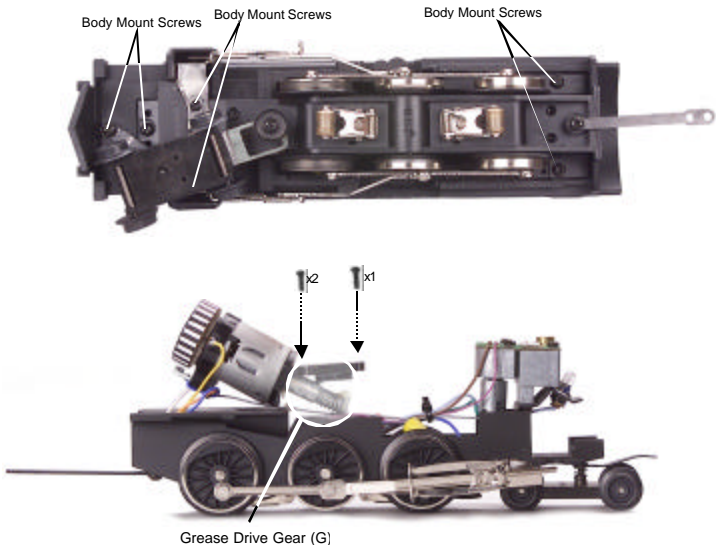

Figure 12. Locations of Body Mount Screws and Diagram for Greasing the Drive Gear
1. Unscrew the chassis screws as shown in Fig. 12 and remove the boiler.
If you experience poor or no smoke output when the smoke unit is on and has fluid, check the wick to see if it has become hard, blackened, and unabsorbent around the heating element. Remove the boiler shell (fig. 12, pg. 12) then smoke unit inspection cover from the smoke unit's body (see Fig. 13). After removing the chassis and inspection cover screws, lift the inspection plate away and inspect the wick. If it is darkly discolored and hard, it should be replaced.
Remove the locomotive boiler from its chassis as shown in Figure 12. Once the body has been removed, rotate the headlight bulb counter-clockwise as seen in Figure 14 to remove.